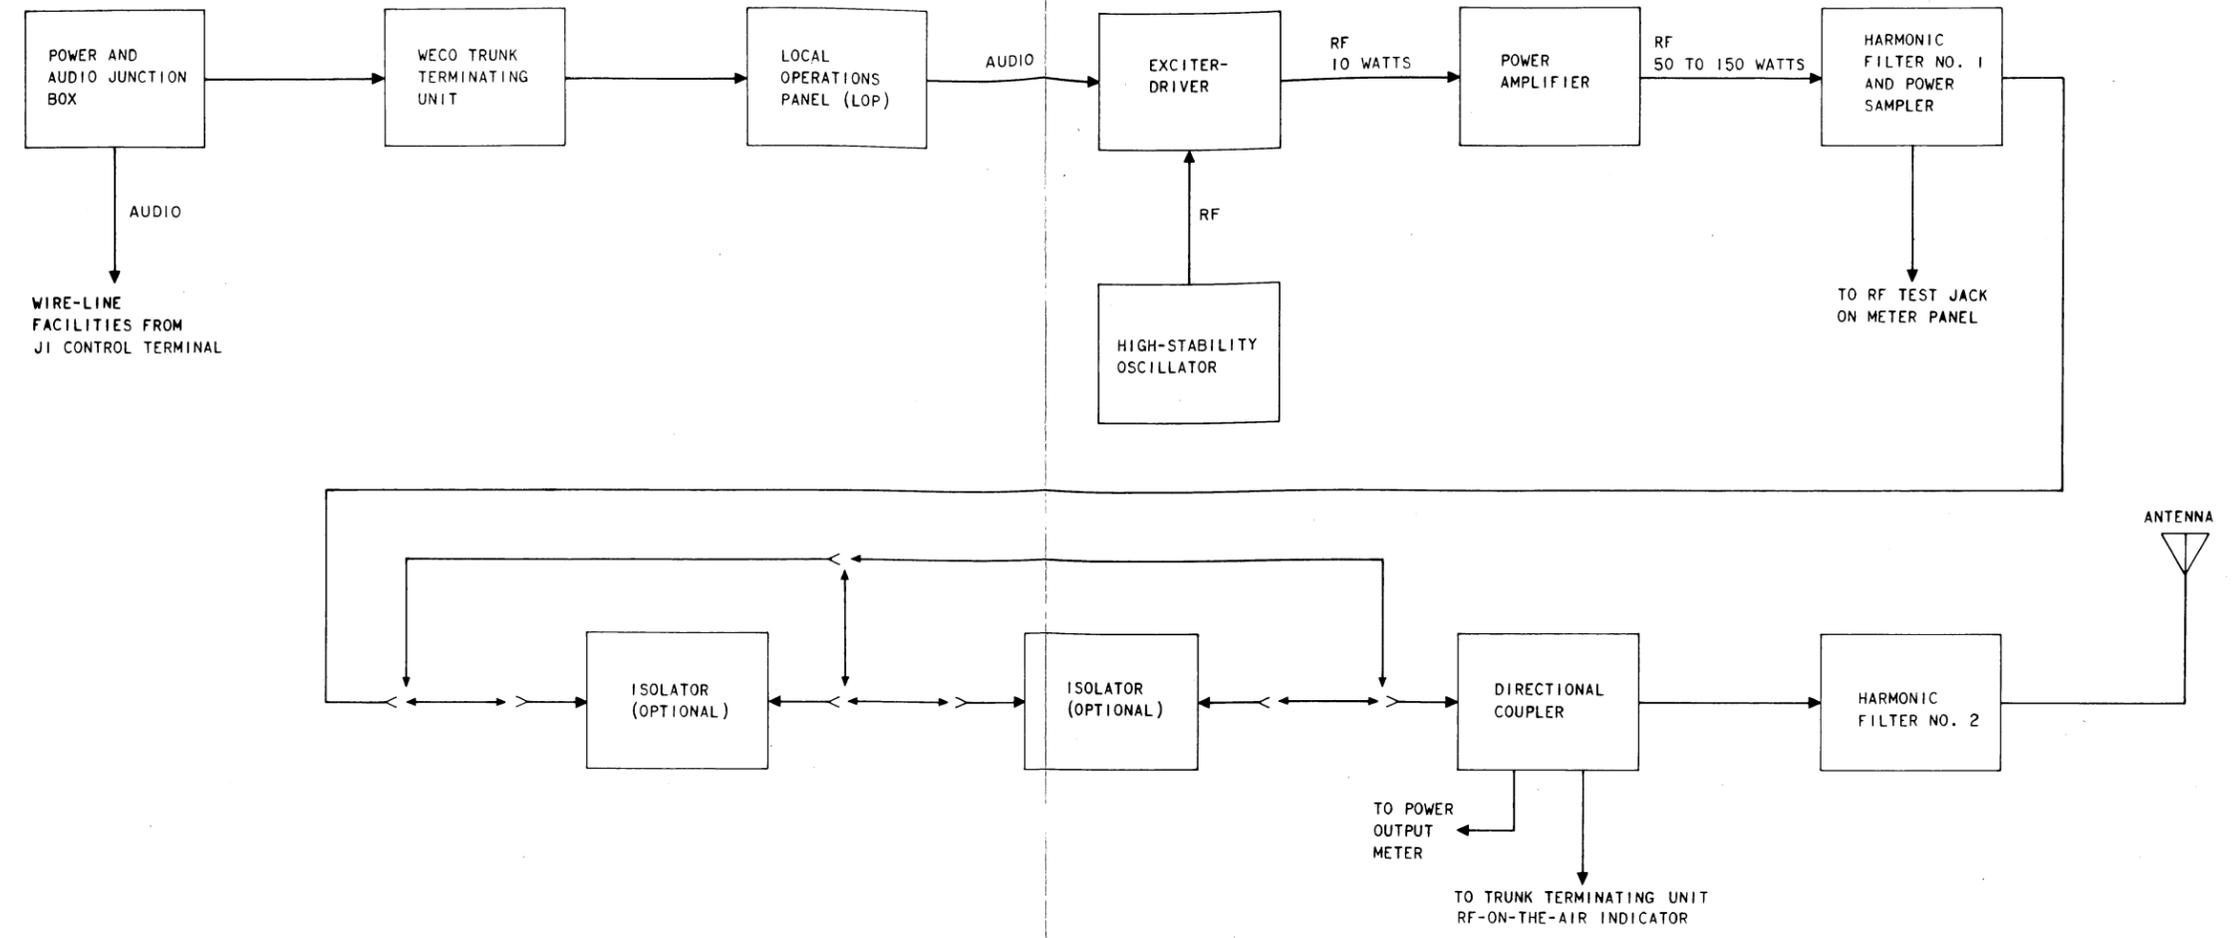

Fig. 4—Transmitter Block Diagram
1.13 The transmitter employs a high-stability oscillator, exciter-driver, and power amplifier to process a carrier signal. The RF signal path begins at the high-stability oscillator (Fig. 4) where the output is 12.5 to 13.5 MHz. This signal is connected to the exciter-driver where it is multiplied 12 times in frequency, modulated by the audio from the local operations panel, and then amplified to produce an rf output of approximately 10 watts at output frequencies in the range of 150.0 to 160.0 MHz. The exciter-driver output is connected to the power amplifier which increases the rf output of the exciter-driver to the rated power output of the transmitter. The power amplifier produces up to 150 watts of rf output power. The output of the power amplifier is connected to harmonic filter No. 1. When no isolators are used, the output of harmonic filter No. 1 is connected to harmonic filter No. 2 via the directional coupler. These two filters are low pass filters that pass the fundamental carrier frequency and reject harmonics. Each filter is capable of rejecting the second harmonic frequency by 70 dB. The directional coupler provides dc outputs for operating the rf on-the-air indicator and the forward and reverse wattmeter. Harmonic filter No. 1 contains a power sampler. The output of this power sampler is connected to an RF TEST